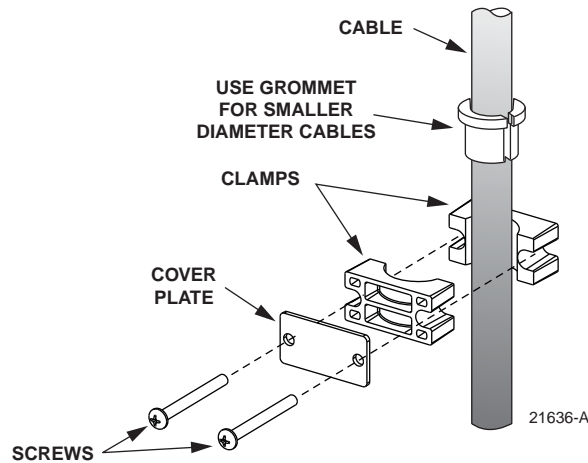

Figure 21. Cable Clamp Assembly
7. Assemble the cable clamp (and grommet if required) on the cable as shown in Figure 21 and secure the cable to the lower part of the cable clamp bracket.